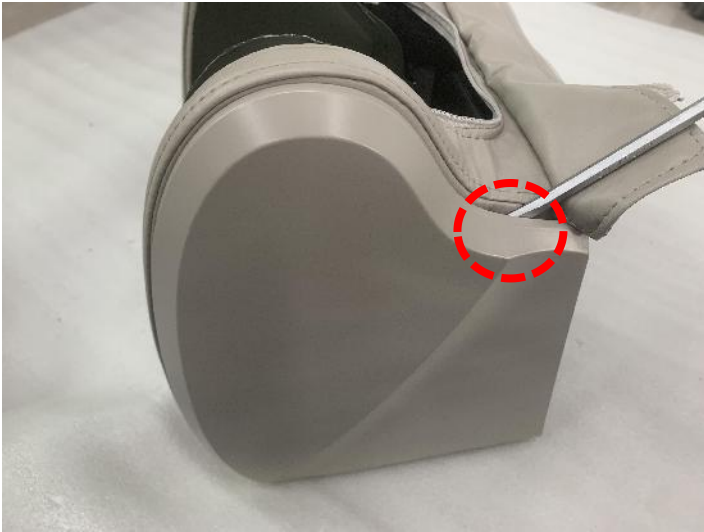

Figure 1
1. Pry open the left and right outer covers of the kneading assembly with a straight screw (Figure 1)